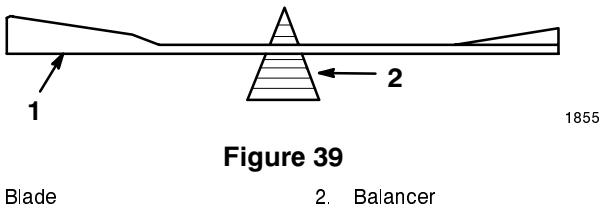

Figure 39
2. Check the balance of the blade by putting it on a blade balancer (Fig. 39). If the blade stays in a horizontal position, the blade is balanced and can be used. If the blade is not balanced, file some metal off of the back side of the blade. Repeat this procedure until the blade is balanced.